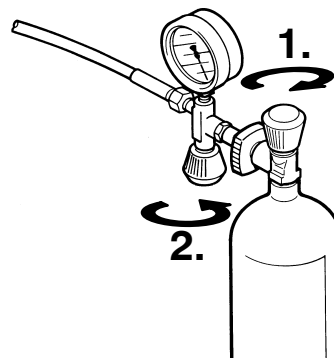

Fig. 14 Removing air bottle
- Upon reaching final bottle pressure **close bottle valve first** (1, Fig. 14), **then filling valve** by returning handle to closed position (2).